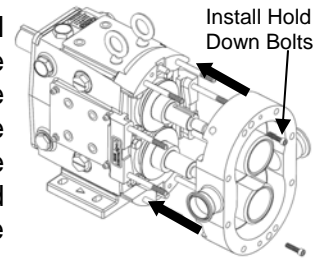

Figure 40: Installing Pump Body
1) Make sure all seal components are installed by following “Seal Assembly” instruction provided on page 17. Ensure all dowels are in place and that all parts including body, rotors, and rotor nuts are clean and free of foreign matter. Slowly slide the body over the gear case studs and shafts, ensuring the seals are kept in place and not damaged (Figure 40). Install the two hold down bolts and tighten the body against the gear case to ensure the dowels are engaged. Rotate the shafts to make sure there is no interference with the seals.